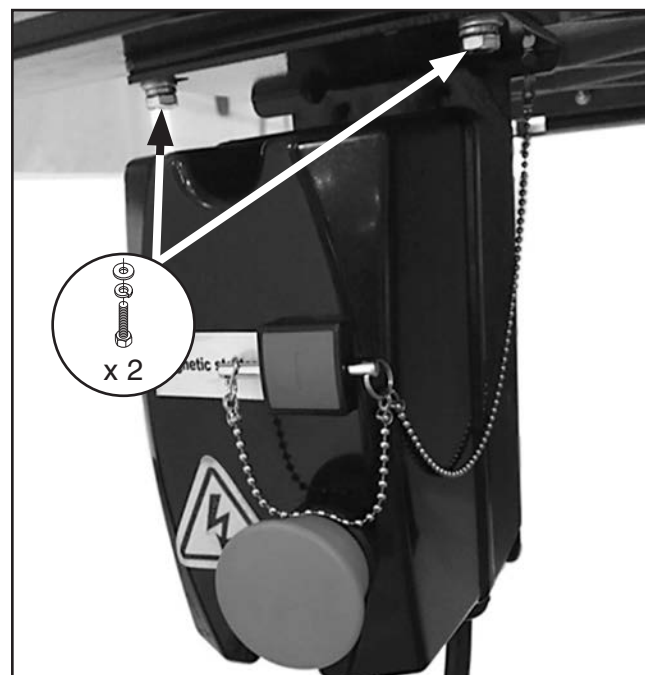

Figure 28. Magnetic switch installed.
1. Install the magnetic switch onto the bottom left-hand side of the front rail using (2) M6-1 x 12 hex bolts, 6mm lock washers, and 6mm flat washers, as shown in **Figure 28**.